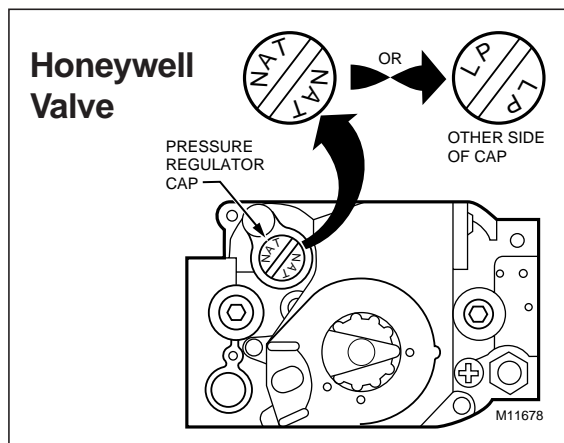

Figure 22. Convertible Pressure Regulator Cap
3. For the conversion to the alternate fuel, the gas valve regulator cap must be turned over, as shown in Figure 22. You will unscrew the cap and reinstall for your installation. After reinstalling the cap, you will be able to read "NAT" for the conversion to natural gas or "LP" for the conversion to LP gas.